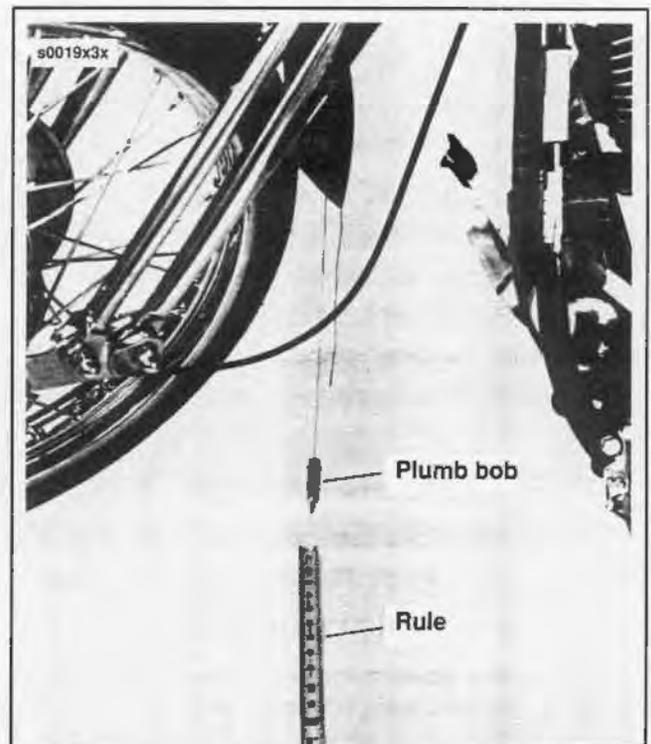

Figure 2-78. Adjusting "Fall-away"
4. See Figure 2-78. Hang a plumb bob from the hole in the rear of the fender. Lay a rule on the floor directly under the plumb bob, with the point of the plumb bob at zero.